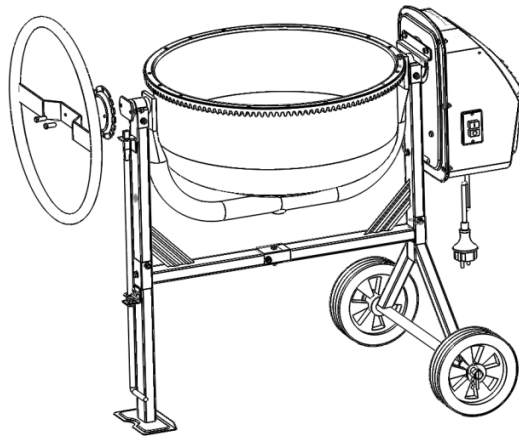

Fig.11
- Position the toothed disc (12), p.13 between the frame and the tipping wheel (8) as shown in Fig.11.